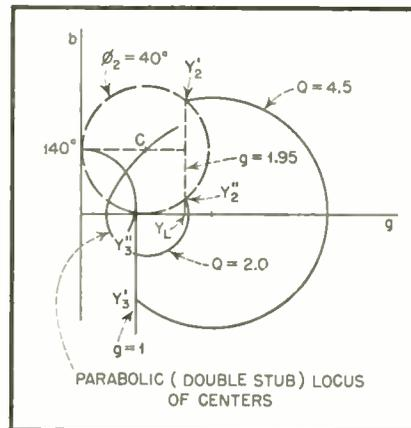

Fig. 7. Graphic solution of double stub matching problem 2, in which two possible solutions are shown.
**Example 2.** Given an admittance  $Y_L = 1.95 + j0$  with stub  $S_1$ , located at the distance of  $40^\circ$ , to find the required stub lengths. On chart 1 the center,  $c$ , of the  $\phi_s = 40^\circ$  circle is found by drawing a horizontal line to the double stub locus curve from the  $(180^\circ - 40^\circ)$  or  $140^\circ$  point on the  $b$  axis as shown in Fig. 7. The circular locus of  $\phi_s$  is drawn in,